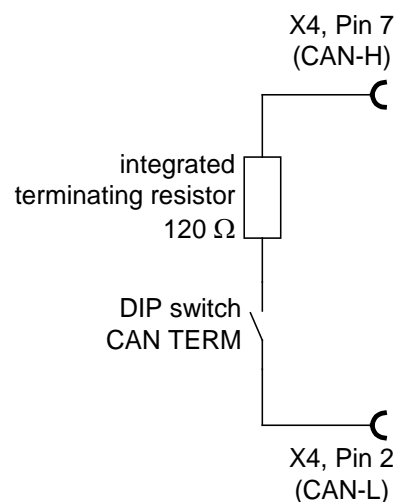

Figure 28: Integrated CAN terminating resistor
- ❖ On both ends of the CAN bus cable must be exactly one terminating resistor of 120 Ω \pm 5 %. The ARS 2100 FS servo positioning controller is equipped with an integrated terminating resistor that can be activated/deactivated with the aid of the DIP switch "CAN TERM" that is located on the front panel (see *Figure 11* and *Figure 28*)